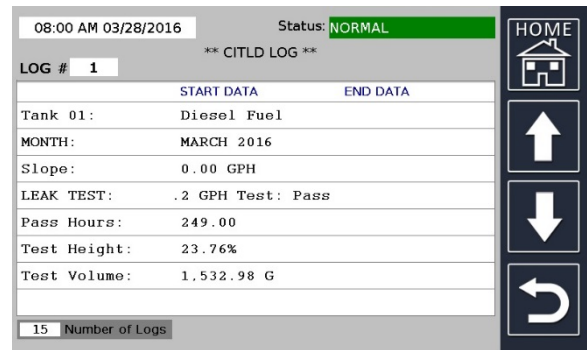

Figure 3.6.3
d) Selecting a specific report will display more detailed information about each CITLD test. (Figure 3.6.3)